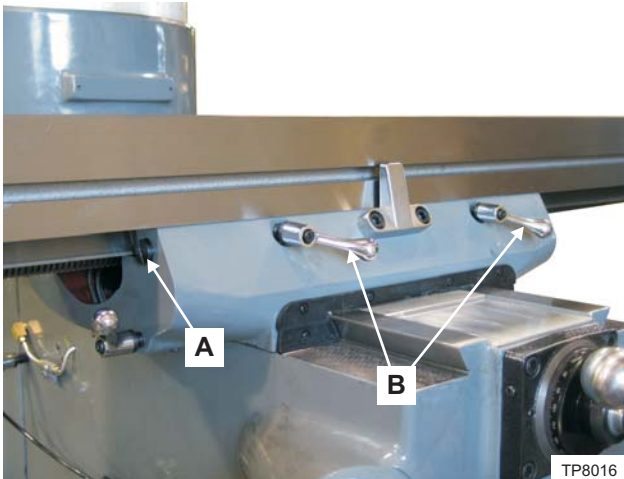

Figure 3.10 - Left Table
1. Loosen table clamps "B", Figure 3.10.
- B) Tighten left gib screw "A", Figure 3.10, slightly and test the table movement.
- A) Loosen left gib screw "A", Figure 3.10.